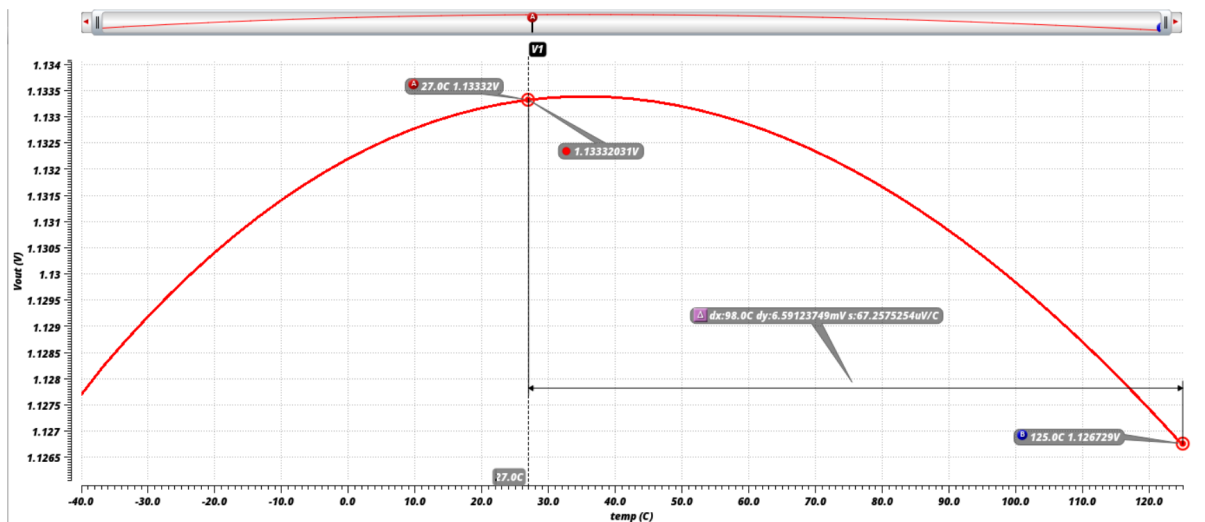

Figure 6: Temperature Regulation
- Using the 5-T OTA as a *black box* with four terminals (Input, Output, V_{DD} , and GND), design an improved version of the Band-Gap Reference (BGR) circuit (refer to Fig. 6) with the following specifications: